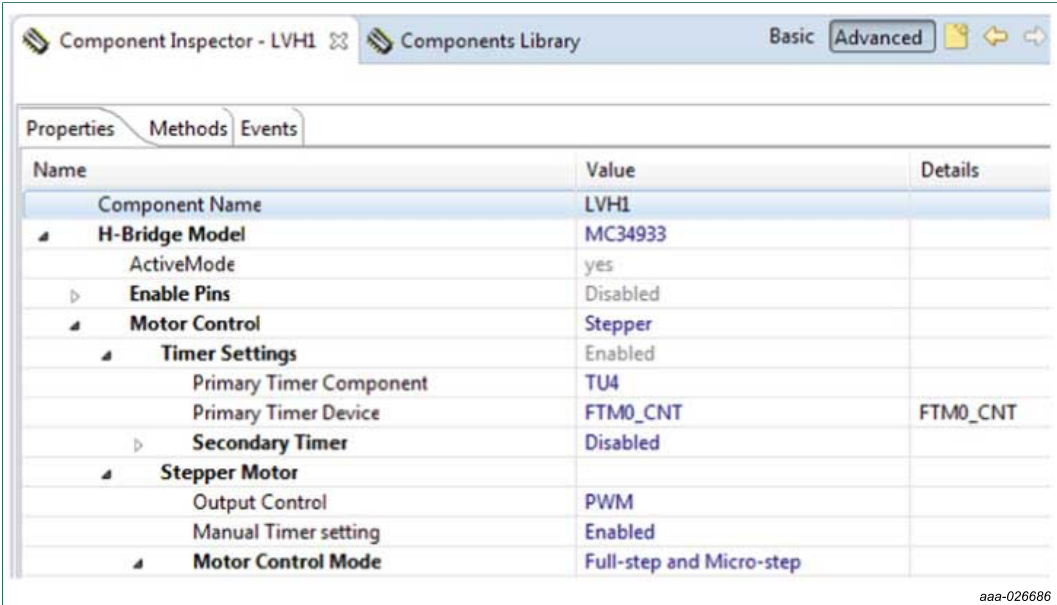

Figure 13. Enabling the manual frequency setting
3. In the Properties tab, find the **Motor Control** -> **Stepper Motor** -> **Manual timer** setting property and set the value to **Enabled**. If you do not see this property, make sure that component visibility is set to Advanced (see Figure 13).